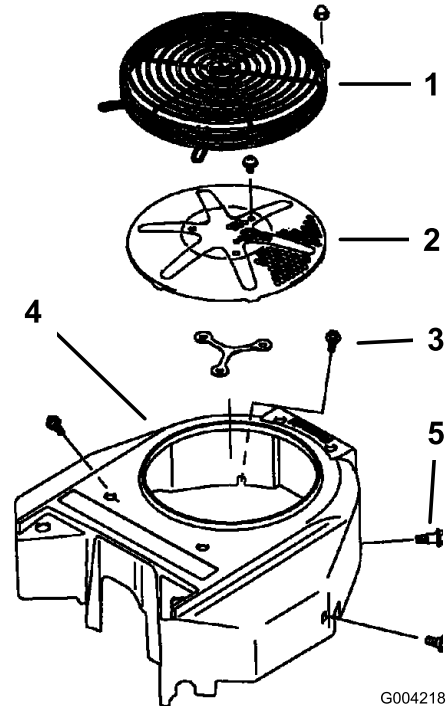

Figure 55
Before each use remove any build-up of grass, dirt or other debris from the engine screen. This will help insure adequate cooling and correct engine speed and will reduce the possibility of overheating and mechanical damage to the engine (Figure 55).
3. Remove the air intake screen, recoil starter and fan housing (Figure 55).
5. Install air intake screen, recoil starter and fan housing (Figure 55).